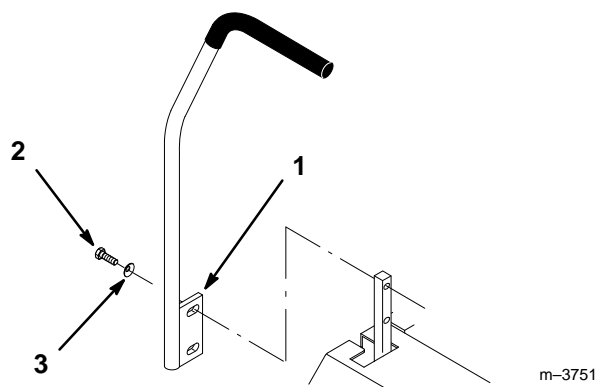

Figure 3
1. Remove the (4) 3/8–16 x 1" (26 mm) bolts and (4) 3/8" spring washers which attach the motion control levers to the control arm shafts for shipping (Fig. 3).
2. Place the levers (with the mounting plate toward the rear) on the outside of the control arm shaft and secure with (4) 3/8–16 x 1" (26 mm) bolts and (4) 3/8" spring washers (Fig. 3).
4. Align the front/rear position of the levers, with each other, in the neutral position. Loosen hardware and adjustment by sliding/tilting the lever(s) forward or backward until properly aligned (Fig. 3).